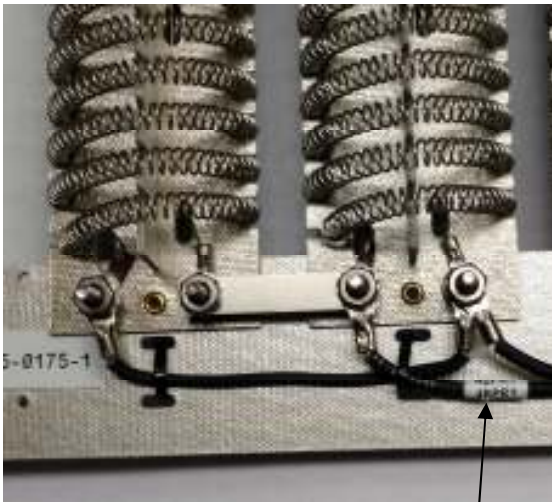

Figure 11a
3. Disconnect the bad resistor wires from the contactors. Do not disconnect the wires from the resistor side. Each wire is labeled on both ends for easy location.(See figure 11a and b)